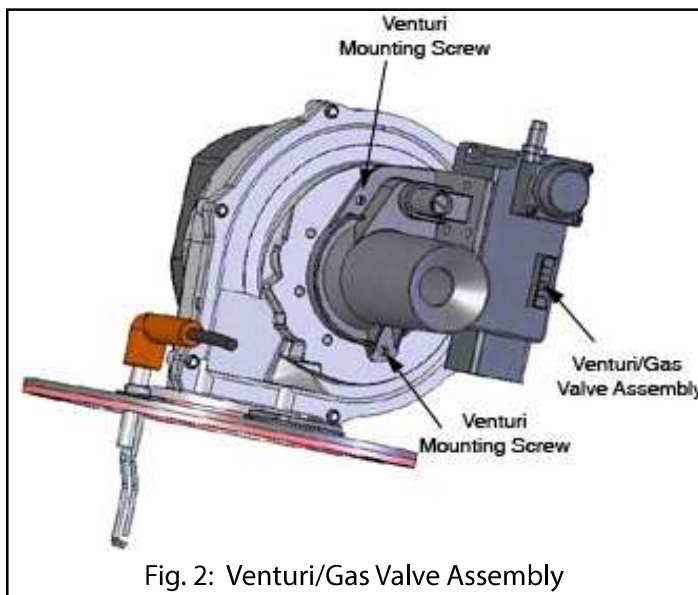

Fig. 2: Venturi/Gas Valve Assembly
7. Using the #25 Torx wrench from the kit remove the 2 venturi mounting screws from the venturi / gas valve assembly, see Fig. 2. Remove the venturi / gas valve assembly from the blower.